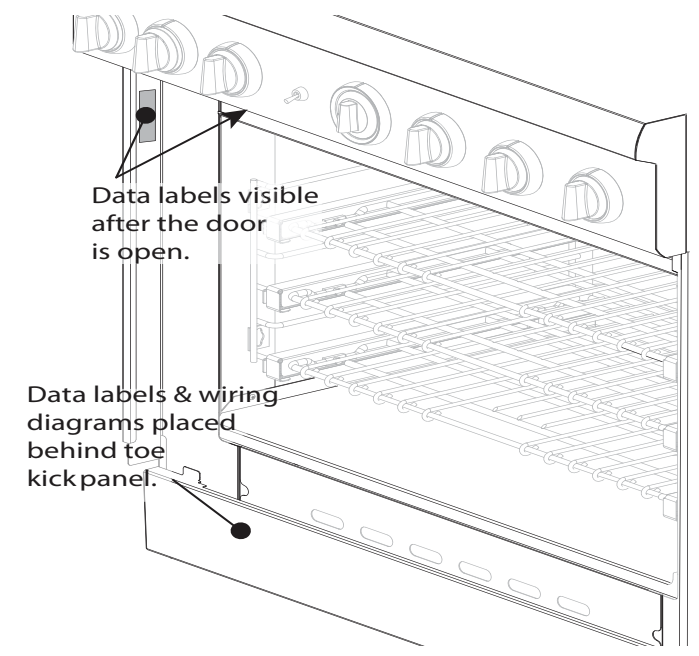

Figure 27: Data Rating Label Location
- To reach a service representative, see the contact information on the back page of this manual. Please be prepared with the model and serial number information from the product data rating labels (see *Figure 27 on page 24* for location).